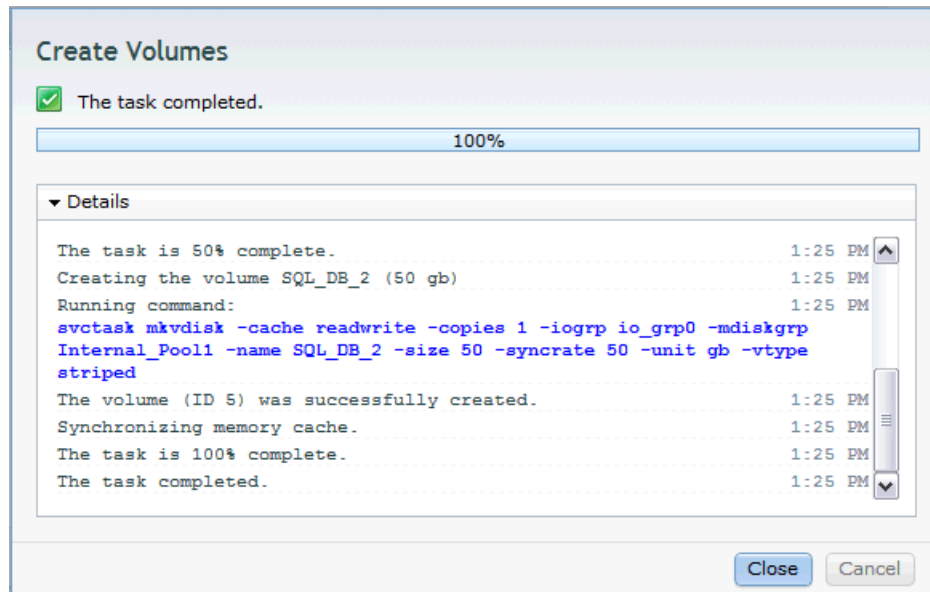

Figure 6-5 Volume created
- Enter a volume name and a size, and click **Create**. The new Generic volume is created and the CLI commands that IBM Flex System V7000 Storage Node uses are displayed (Figure 6-5).